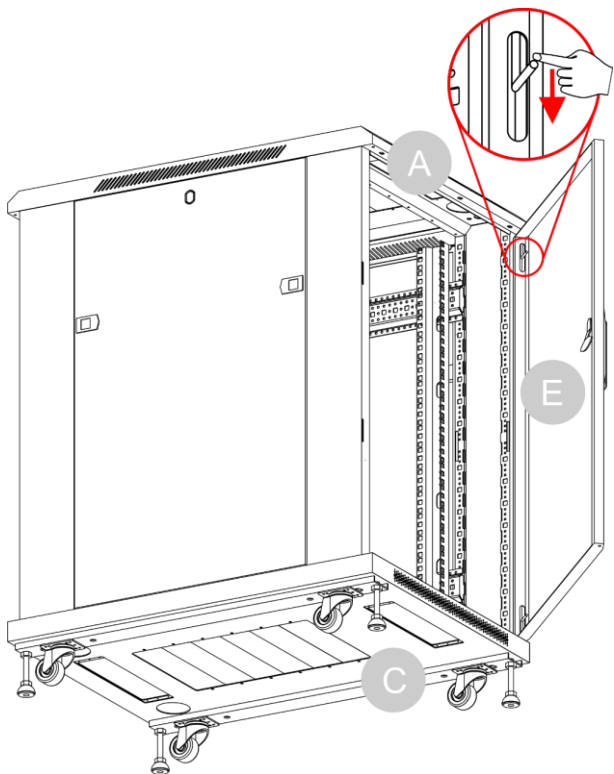

Fig. 41
- 25) Carefully pull down the spring-loaded lever so that lever is aligned with the hole on the bottom of the **top plate (C)** and slowly release it, as shown in Fig. 41. Make sure that the **mesh door (E)** is firmly locked in the hole on the bottom of the **top plate (C)** and the hole on the top of the **bottom plate (A)**.